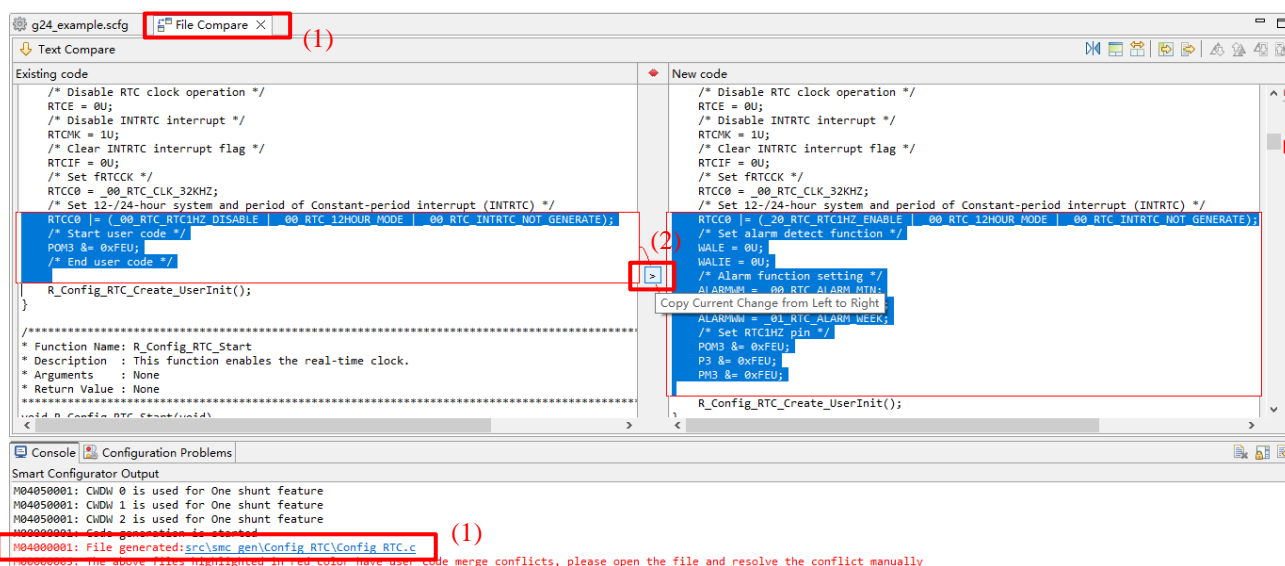

Figure 11-4 Code before Resolving Conflict
- (1) Click on the conflicting file in the console to open the “File Compare” view (Figure 11-4 Code before Resolving Conflict).
- (2) Click on “Copy Current Change from Left to Right” (Figure 11-4 Code before Resolving Conflict).